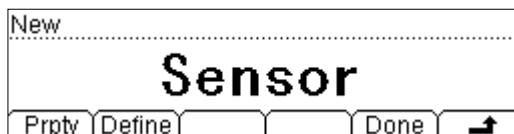

Figure 2-39 New interface
- Press to finish the parameter settings and return to the New interface (figure 2-39).
(3) Press Done (figure 2-39), it will appear Save and Apply options.